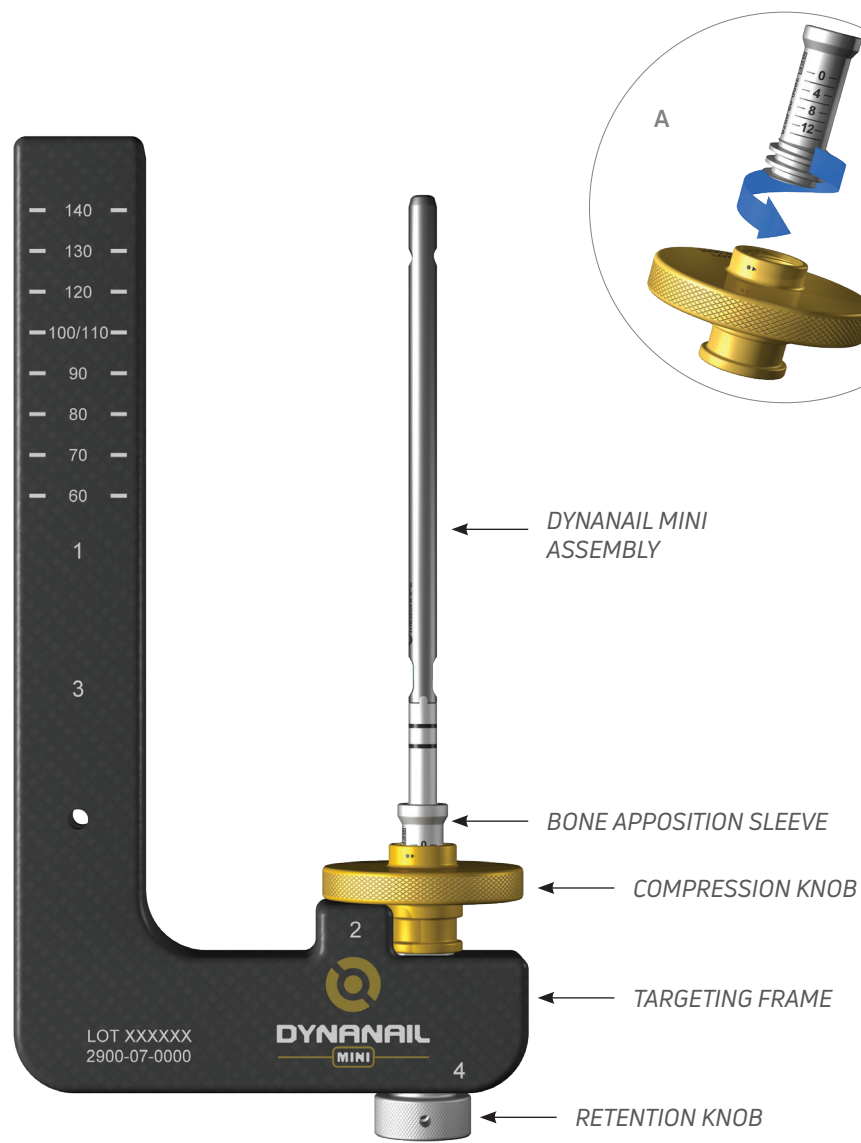

FIGURE 7
1. Targeting Frame (5)
2. Retention Knob (6)
3. Bone Apposition Sleeve (7)
4. Compression Knob (8)
Attach the pre-stretched DynaNail Mini Implant Assembly onto the Targeting Frame and turn the Retention Knob clockwise to securely tighten. Thread the Bone Apposition Sleeve onto the Compression Knob by turning counter-clockwise until it stops (A). With the Bone Apposition Sleeve oriented up, advance the Manual Compression Knob over the DynaNail Mini Assembly and down past the ball bearing until it clicks into place (FIGURE 7).